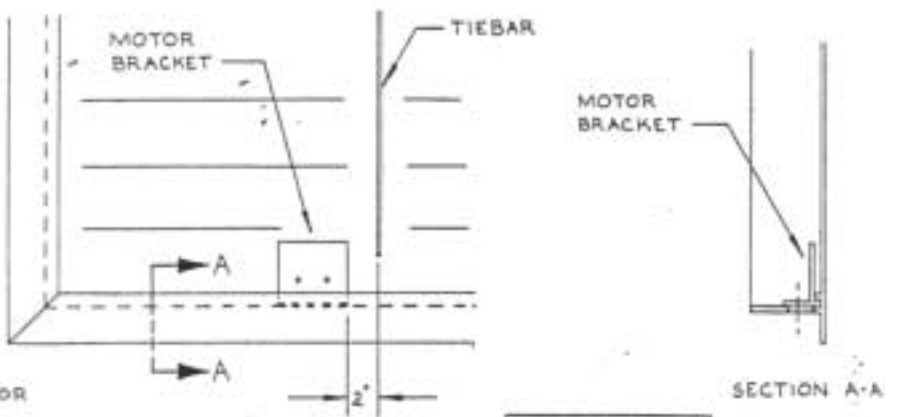

FIGURE 1
1. IN ORDER TO MOTORIZED THE SHUTTER, HOLES MUST BE DRILLED IN THE BOTTOM SHUTTER FRAME TO MOUNT THE SHUTTER MOTOR BRACKET. WORKING FROM THE BACK OF THE SHUTTER (TIEBAR SIDE), PLACE THE SHORT LEG OF THE BRACKET ON THE INSIDE BOTTOM EDGE OF THE SHUTTER FRAME, APPROXIMATELY 2" TO THE LEFT OF THE TIEBAR. ON THE DUAL TIEBAR LRW39, USE THE TIEBAR ON THE RIGHT SIDE OF THE SHUTTER. PUSH THE MOTOR BRACKET TO THE REAR OF THE SHUTTER SO THAT THE BOTTOM SHUTTER BLADE, WHEN OPEN, DOES NOT CONTACT THE BRACKET. USING THE MOTOR BRACKET AS A TEMPLATE, MARK AND DRILL TWO (2) 3/16" DIAMETER HOLES IN THE BOTTOM SHUTTER FRAME. SEE FIGURE 1.